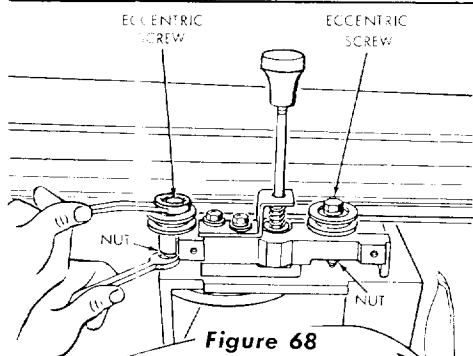
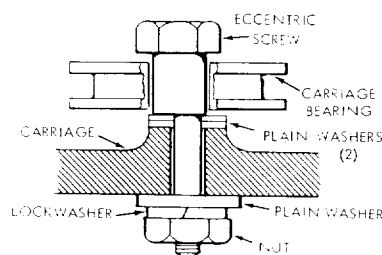

Figure 68
Figure 69
- Loosen nuts (figure 68) just enough to permit the eccentric screws to turn. (See figure 69.)
- Rotate the eccentric screws (figure 68) a partial turn (left or right) as required to take up looseness.
- Hold the heads of eccentric screws (figure 68) in the position established in the preceding step and tighten nuts on underside of carriage. Correct adjustment exists when there is no play between the carriage and radial arm, and yet the carriage moves freely.